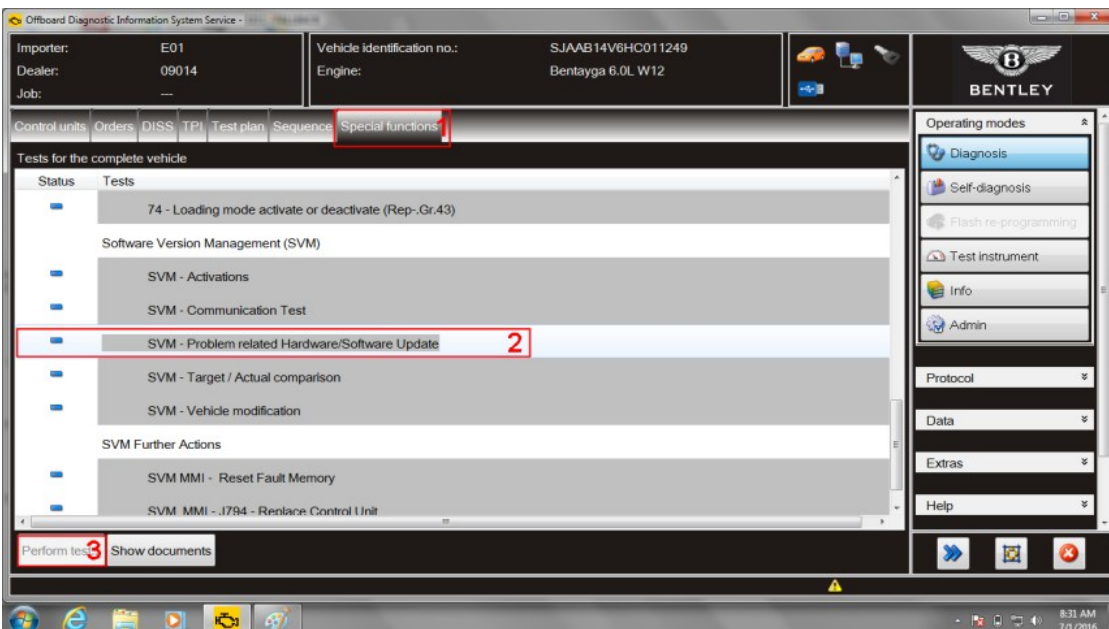

Figure 2
8. Referring to Figure 2, Select Special functions (1), Select SVM – Problem related Hardware/Software Update (2), Select Perform test (3)